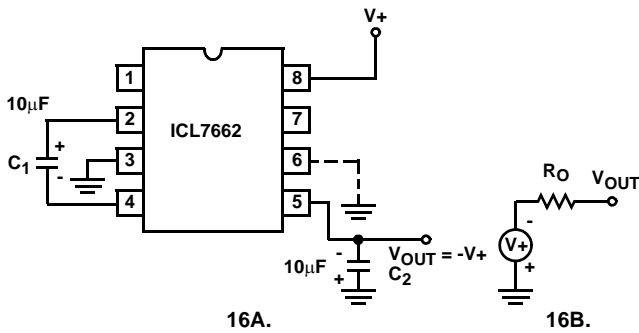

FIGURE 16. SIMPLE NEGATIVE CONVERTER AND ITS OUTPUT EQUIVALENT
The majority of applications will undoubtedly utilize the ICL7662 for generation of negative supply voltages. Figure 16 shows typical connections to provide a negative supply where a positive supply of +4.5V to 20.0V is available. Keep in mind that pin 6 (LV) is tied to the supply negative (GND) for supply voltages below 10V.
ESR also affects the ripple voltage seen at the output. The total ripple is determined by $2V$, A and B , as shown in Figure 16. Segment A is the voltage drop across the ESR of C_2 at the instant it goes from being charged by C_1 (current flowing into C_2) to being discharged through the load (current flowing out of C_2). The magnitude of this current change is $2 \times I_{OUT}$, hence the total drop is $2 \times I_{OUT} \times ESR_{C_2} V$. Segment B is the voltage change across C_2 during time t_2 , the half of the cycle when C_2 supplies current the load. The drop at B is $I_{OUT} \times t_2 / C_2 V$. The peak-to-peak ripple voltage is the sum of these voltage drops:
Figure 23 combines the functions shown in Figure 16 and Figure 22 to provide negative voltage conversion and positive voltage doubling simultaneously. This approach would be, for example, suitable for generating +9V and -5V from an existing +5V supply. In this instance capacitors C₁ and C₃ perform the pump and reservoir functions respectively for the generation of the negative voltage, while capacitors C₂ and C₄ are pump and reservoir respectively for the doubled positive voltage. There is a penalty in this configuration which combines both functions, however, in that the source impedances of the generated supplies will be somewhat higher due to the finite impedance of the common charge pump driver at pin 2 of the device.